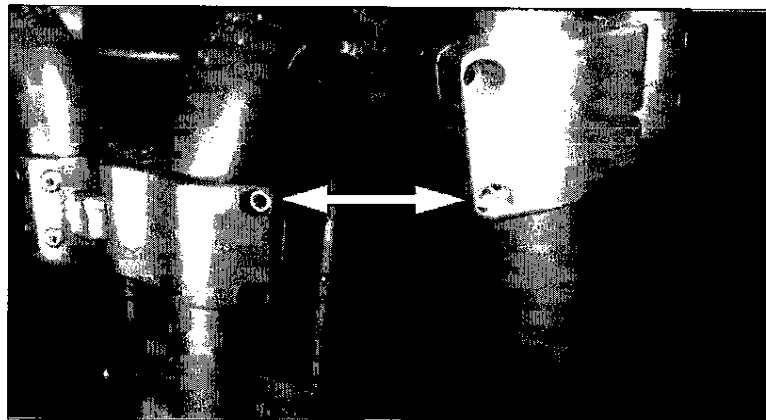

Figure 6
19. Install the remaining two hinge cover bolts and nuts. Ensure the nuts are properly seated in the hexagonal formation of each hinge cover as shown in Figure 6.